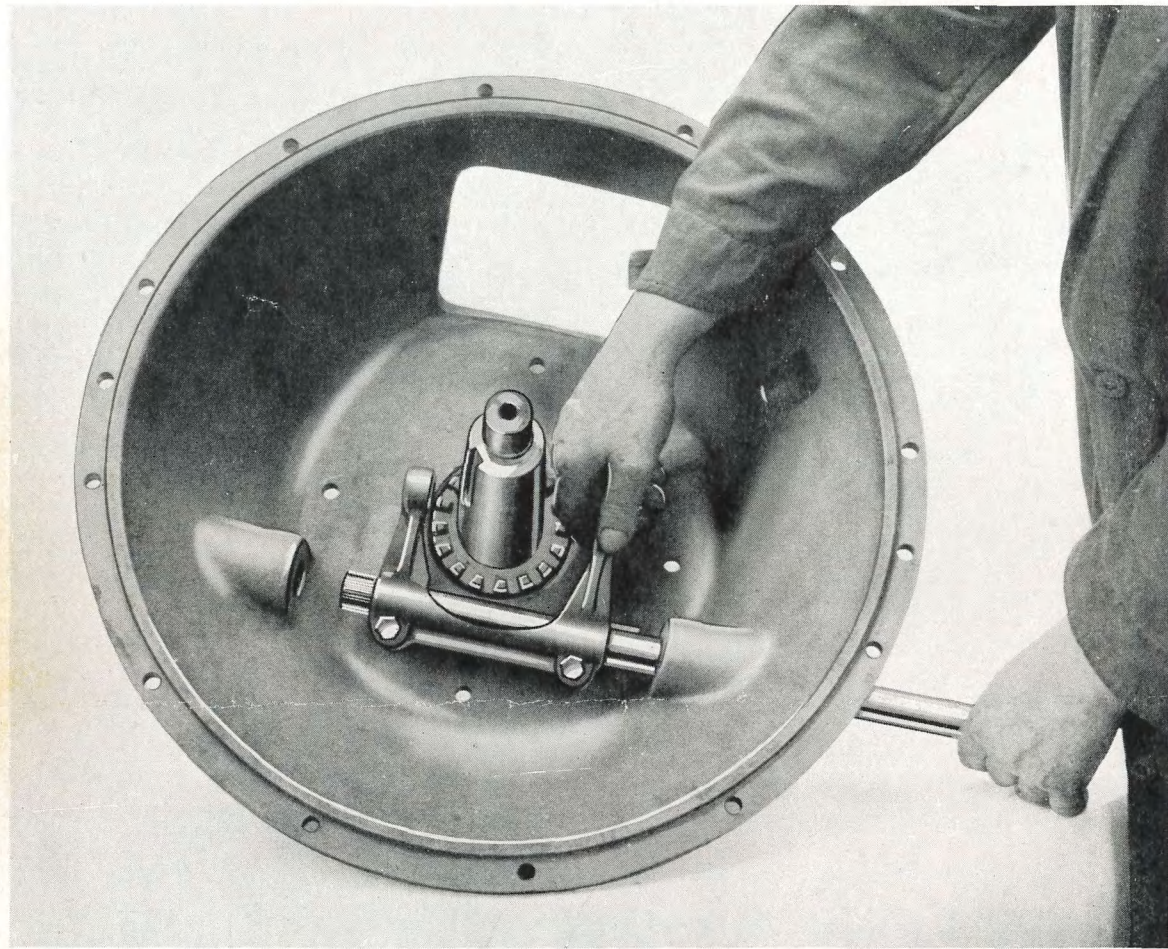

Fig. 6.—Fitting the cross-shaft and the withdrawal yoke.
- 8 Hold the withdrawal yoke inside the housing (as shown on Fig. 6) with the clamp bolts facing outwards, and push the cross-shaft through the housing and the yoke, fitting two Woodruff keys. Ensure that the yoke is centrally disposed and tighten the clamp bolts.